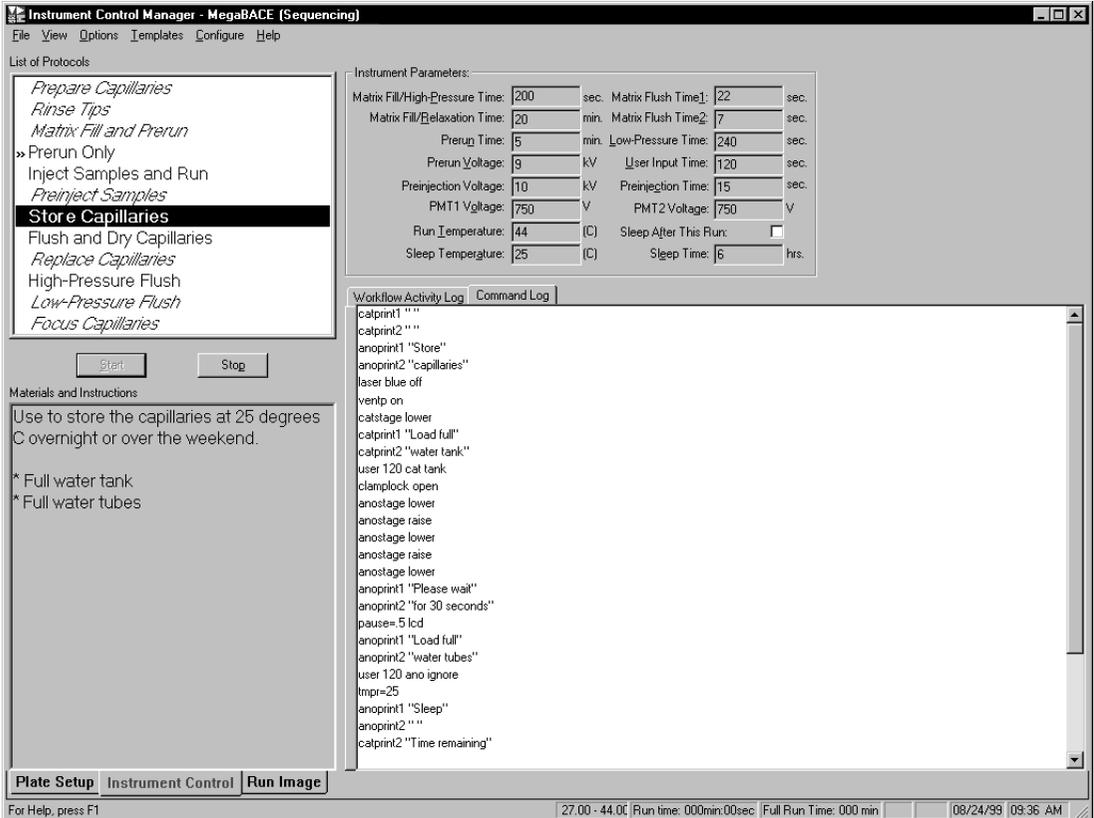

Figure 6-2. The Instrument Control window.
1. Click the **Instrument Control** tab (figure 6-2) to display the Instrument Control window.
After you close the drawers, the instrument raises the stages to cover the tips of the capillaries with water. The software turns off the laser and reduces the temperature of the electrophoresis compartment to 25 °C (77 °F) or the temperature you set in the Sleep Temperature box in the Instrument Control window (figure 6-2).
The software selects and places a double arrow in front of the Prepare Capillaries protocol in the List of Protocols (figure 6-2). See section 6.5 for instructions on how to prepare the capillaries.